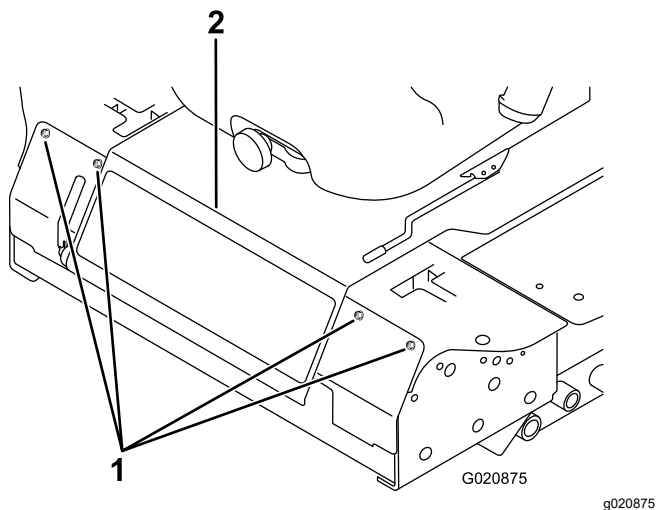

Figure 91
3. Remove the bolts securing the front panel and remove the panel (Figure 91).